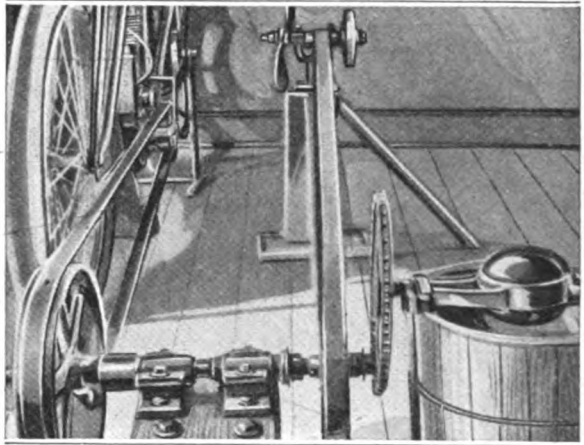
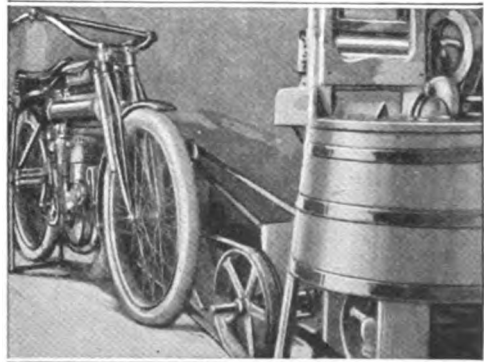
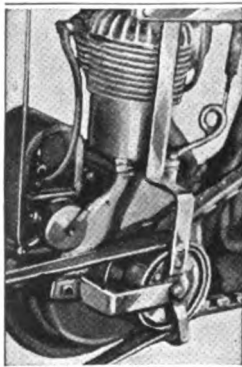
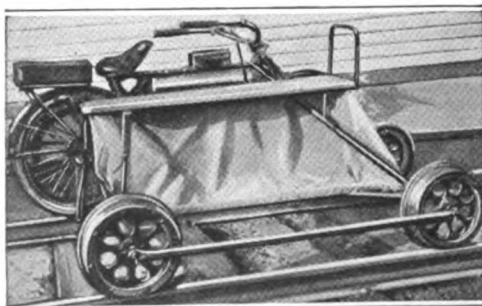

FIG. 1
FIG. 2
FIG. 3
FIG. 4
**A** MOTORCYCLE that is used only for transportation or pleasure jaunts is not giving the fullest service to its owner. By providing suitable rigging and devices, all easily made in the home workshop, I use my motorcycle the year round, for a large variety of home and shop duties. The arrangement shown in Fig. 1 permits the use of the engine for driving a cooling fan, an emery grinder, and an ice-cream freezer. Many other home and farm machines may be driven similarly. The work of wash day made lighter by the use of the motorcycle engine is shown in Fig. 2, and a detail of the driving pulley in Fig 3. The machine fitted to a truck for use on railroad tracks is shown in Fig. 4. The vehicle is not impaired for its ordinary use, and the devices used with it are quickly disconnected.
**A** FORM of stripper widely used on power punch presses, to remove the product after the dies have been applied, is that fixed to the die by means of four screws. Such a device was in use in a large manufacturing establishment using many presses, and proved costly from various considerations: The device was dangerous to the workman; caused great wear on tools; required that dies be frequently dressed, and made it impossible to see the work in process as readily as is desirable. Cost of production was high, and the profit of the operators was relatively low because their production quantity was kept down. By the introduction of the simple spring stripping device shown in the illustrations, together with jigs for the economical production of its many variations, a striking improvement was made in all of these points. The stripper consists of a flat steel plate, cut to provide clearance for the punch, and is shown fixed to the ram of the press in Fig. 1. The stripper, shown at A, has an opening at its center for a punch of oblong face, a slight clearance being provided all around its edge. The stock of the punch is fixed in the central opening of the ram B, and is clamped by means of the screws. A jig for boring and counterboring the stripper, for fastening it to the ram, is shown in Fig. 2; three views of a jig for marking the center opening with clearance for the punch are shown in Fig. 3, together with details of the adjustable handle.